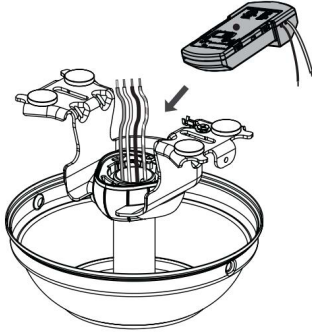

Fig. 6
Step 1. Insert the remote receiver to the bracket as figure 6.